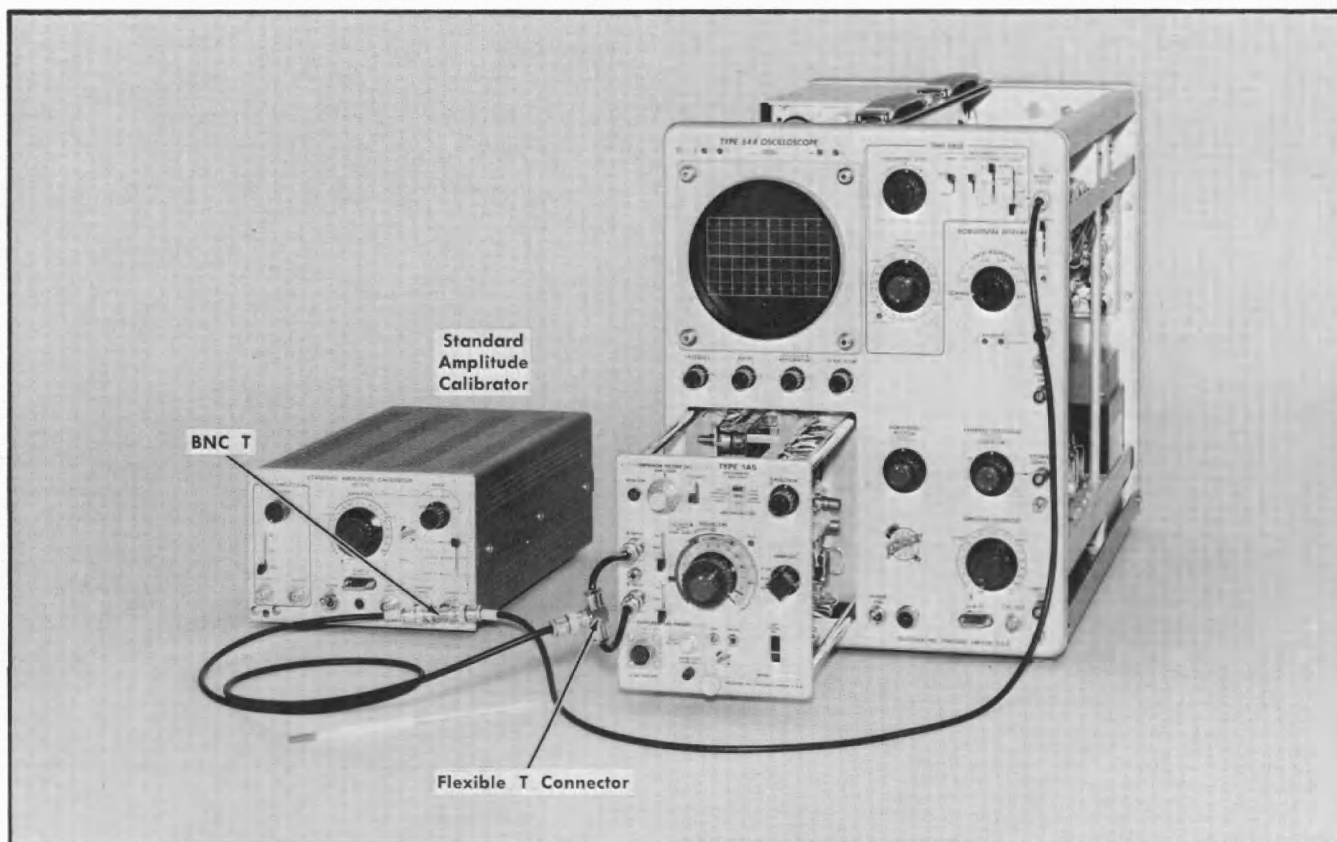
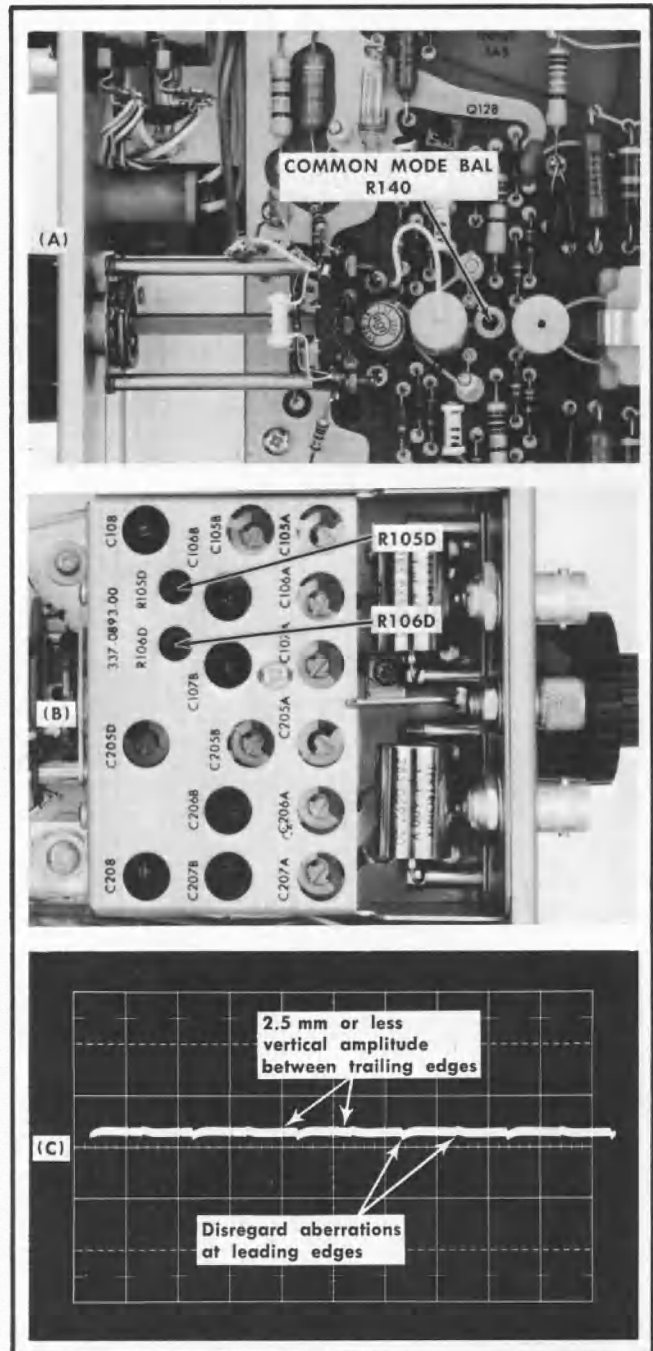

Fig. 6-13. Equipment setup for step 13.
Fig. 6-14. DC common-mode balance, step 13. (A) and (B) Adjustment locations; (C) Typical waveform. (Sweep rate 0.5 ms/cm; vertical sensitivity 1 mV/cm)
13. Adjust DC Common-Mode Balance (COMMON-MODE BAL - R140, and R105D, R106D) ①
a. Equipment setup is shown in Fig. 6-13. Location of adjustments is shown in Fig. 6-14 (A) and (B). A typical adjustment waveform is shown in Fig. 6-14 (C).
b. Connect the two symmetrical ends of a flexible T connector (item 11) to the A and B INPUT connectors of the Type 1A5. Connect a BNC-T adapter (item 10) to the Standard Amplitude Calibrator square wave output connector. Connect a 50 Ω coaxial cable from the flexible T to the BNC-T adapter on the Standard Amplitude Calibrator. Connect a 50 Ω coaxial cable from the oscilloscope trigger Input connector to the BNC-T adapter on the Standard Amplitude Calibrator.
- i. ADJUST—COMMON MODE BAL (R140) for minimum amplitude between the trailing edges of the square waves (2.5 mm or less for 20,000:1 CMRR in $\times 1$ range). See Fig. 6-14 (C). Disregard aberrations that may exist near the leading edge of the square waves.
- k. ADJUST— $\times 10$ and $\times 100$ attenuator DC common-mode balance for the same results as in i. Equipment setups and adjustments are listed in Table 6-4. Refer to Fig. 6-14 (B) for location of adjustments. (2000:1 CMRR in $\times 10$ and $\times 100$ ranges.)